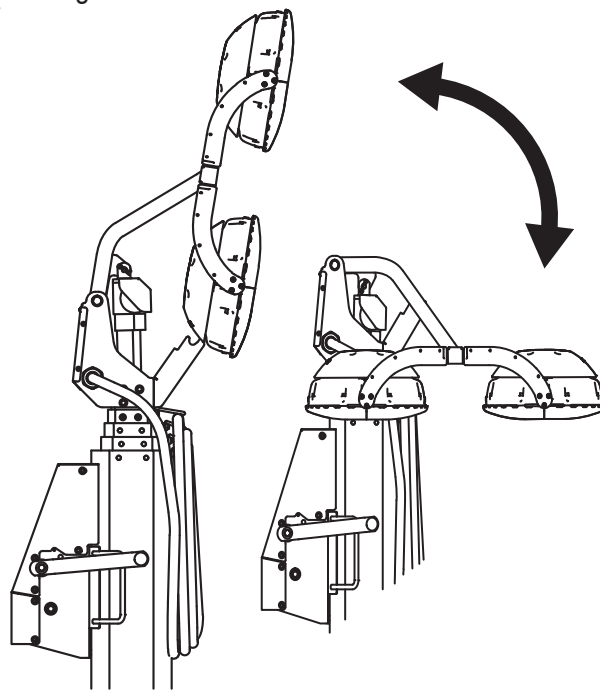

Figure 12. Raising and Lowering Lampstand
4. The lampstand will begin to rise (Figure 12). When the lampstand is in the desired position, release the actuator switch. The actuator switch will return to the center position automatically and lampstand will stop rising.